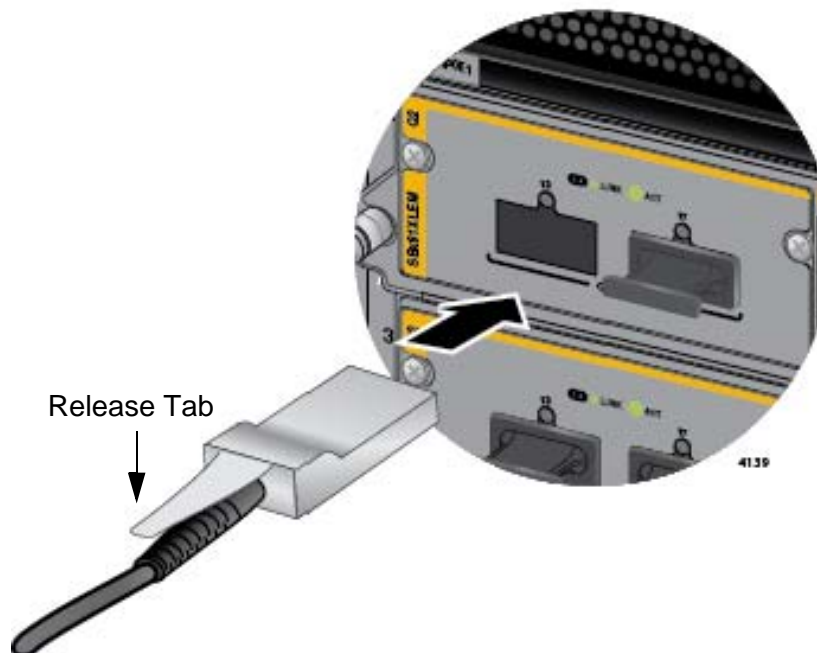

Figure 111. Sliding the AT-QSFPCU Cable into the Transceiver Slot
2. Orient the connector on the AT-QSFPCU Cable with the release tab on top and slide it into the transceiver slot until it clicks into place. Refer to Figure 111 on page 176.